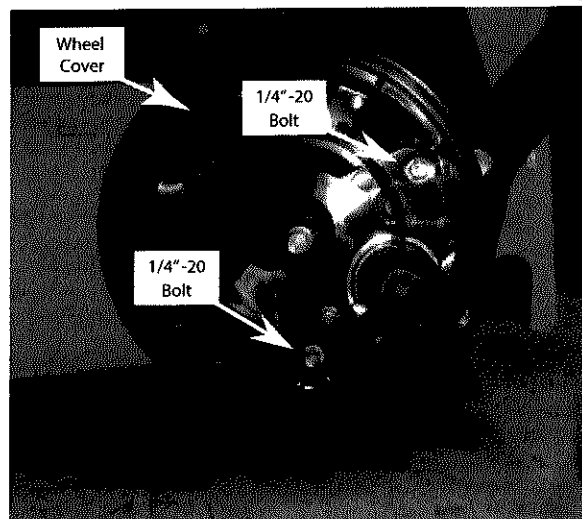

Figure 1
4. Next, remove the left rear wheel assembly by loosening the 3/8" elastic stop nut from the rear axle shaft. Once the wheel assembly has been removed, locate the two 1/4" - 20 bolts securing the rear wheel cover to the rear axle weldment. See Figure 1. Once the wheel cover bolts have been identified, remove the two 1/4" - 20 bolts and remove the wheel cover from the rear axle weldment. Retain the 3/8" elastic stop nut and two 1/4" - 20 bolts to be re-used in step 16.